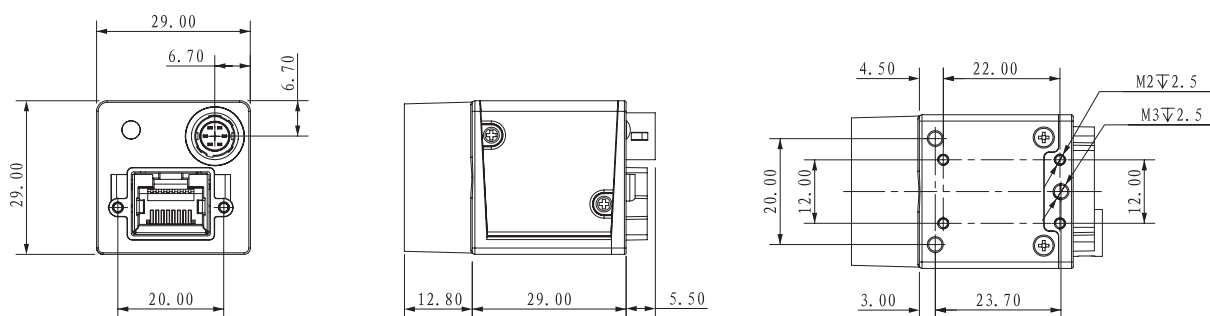

Fig. 1-2: Mechanical Dimensions (in mm) for GigE Cameras with 29*29*29mm housing (with GPIO).
- GigE Cameras with 29*29*29mm housing are as shown in Figure 1-2.